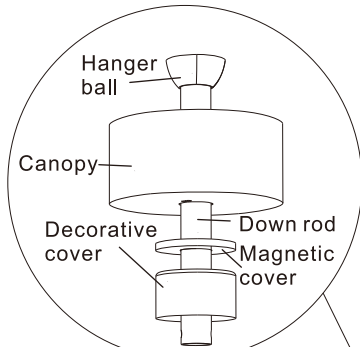

Figure 3.1
- Take out the canopy, magnetic cover, and decorative cover and pass them through the down rod. (Figure 3.1)